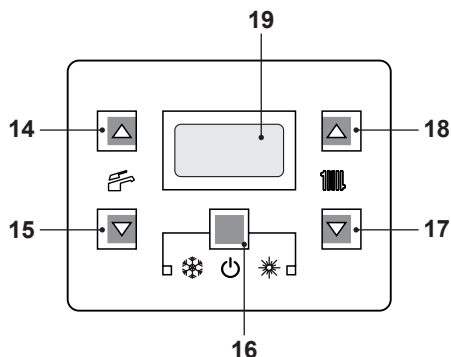
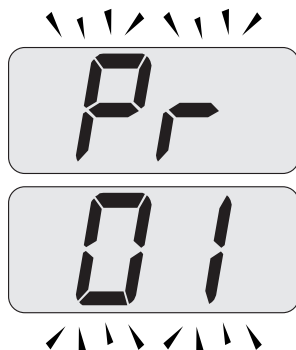
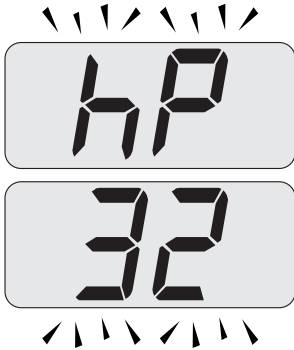
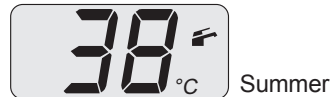

Fig. 10.17
Fig. 10.18
Fig. 10.20
Fig. 10.23
- Enter in "programming mode" by sequentially pressing and holding in keys, 16 - 17 and then 18 (Fig. 10.17) for 10 seconds until the letters **Pr** that alternate with code **01** are displayed on the LCD display, indicating that "parameter 01" (Fig. 10.18) has been activated.
- Press keys 17 and 18 (Fig. 10.17) at the same time until the LCD display displays the letters **LP** that alternate with the heating water temperature value (e.g. **45**), indicating the activation of the "flue sweep function" at minimum output (Fig. 10.19).
- By pressing 18 (Fig. 10.17) it is possible to change power in flue sweep mode: with the letters **hP** on the LCD display which alternate between the heated water temperature (i.e. **32**), we are in the "flue sweep function" at the minimum power during heating (Fig. 10.20).
- Press sequentially keys, 16 - 17 and then 18 (Fig. 10.17) and hold in for 10 seconds to exit the "flue sweep mode" and return to the previously set boiler status (Fig. 10.23).